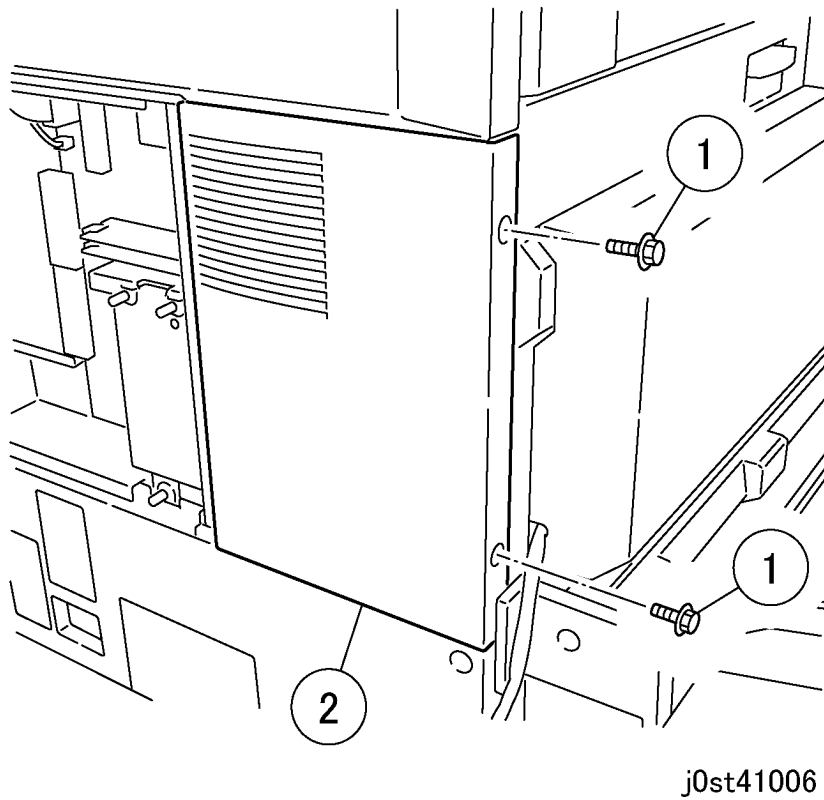

Figure 2 Removing the Rear Middle Cover (j0st41006)
3. Remove the Rear Middle Cover. (Figure 2)